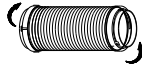

Fig. 16
1. Attach both adaptors A and B to exhaust hose. Extend each end of the hose by couple inches and turn the adaptors as shown in Fig. 16. Do not over-tighten. Refer to previous pages for window kit installation.